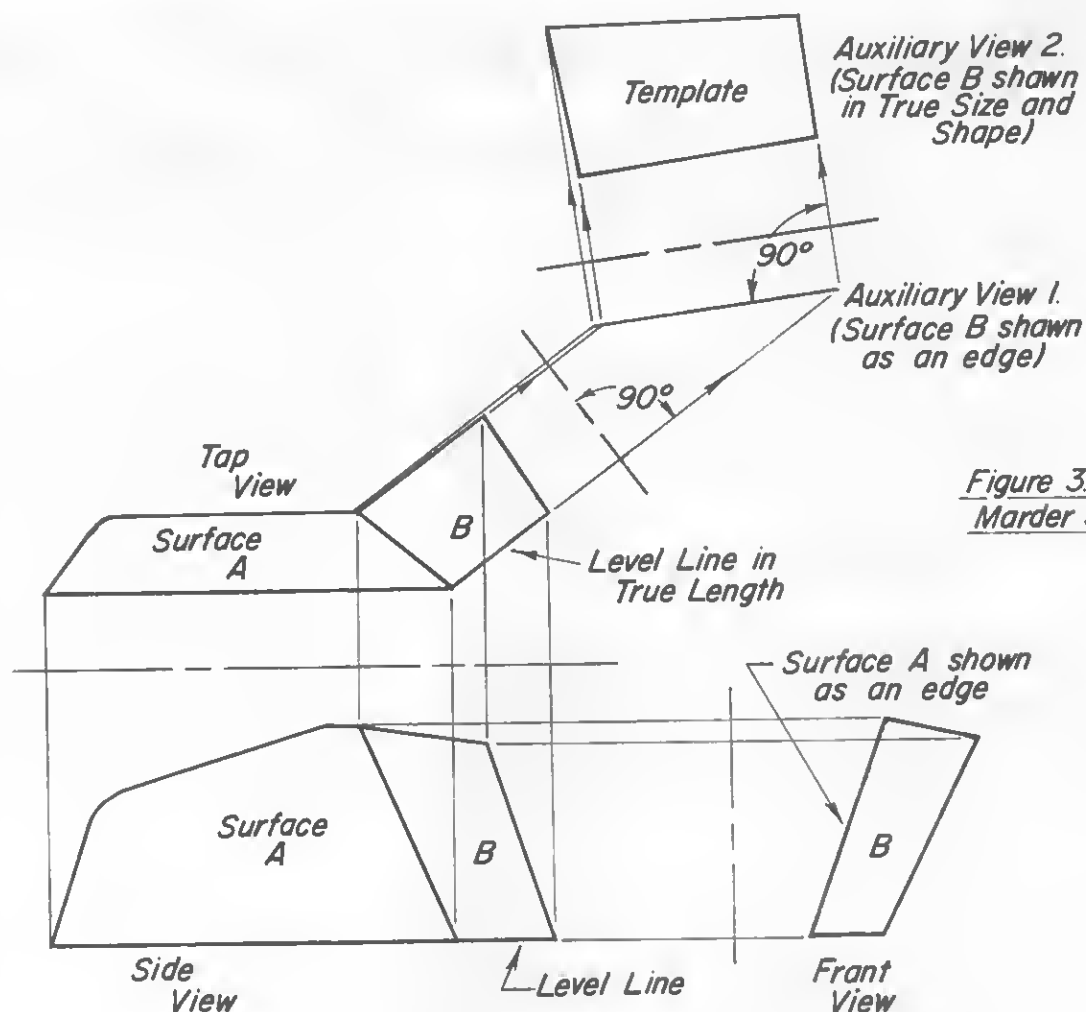

Figure 3.
Last, we come to the subject of developing templates from oblique surfaces. Since an oblique surface never appears in any of the normally-given views as an edge, and any surface must appear as an edge, it follows that the oblique surface must first be drawn as an edge. Once it is drawn as an edge, the technique used for inclined surfaces may be used to draw the oblique surface in its true size and shape. Please refer to Figure 3 at this point. Figure 3 shows partial right side, top and front views of the "Marder 38(t)" (Sd. Kfz. 138, Ausf. M) as it appeared in Vol. 3, No. 12 of AFV-G2. For those of you who have copies of this drawing, you may note that I have rearranged the layout of these partial views for convenience. This figure shows two surfaces; Surface A is an inclined surface, and Surface B is an oblique surface. As can be seen in the drawing, you will have to draw two (2) auxiliary views to get an oblique
3. Draw projection lines (from the view which shows the level line in its true length) parallel to this line and, as usual, draw a fold line perpendicular to these projection lines. Remember to draw a projection line from every point on the oblique surface. These projection lines and the fold line comprise what is labeled Auxiliary View 1. in Figure 3.
little practice, however, you'll find that the rules and instructions are easily remembered and that developing templates of inclined and oblique surfaces becomes almost as easy as tracing directly from the source drawing. As an exercise, may I suggest that you trace the two views from Figure 2 and the three views from Figure 3 onto a sheet of tracing paper. Once you've finished the development of the auxiliary views, compare the results with mine. Also note that Surface A in Figure 3 is an inclined surface. As a further exercise, you might try to develop a template for Surface A from the given views. What follows is a summary and a few tips about working with the templates once they have been drawn. Good luck and have fun.
3. Is the set of source drawings laid out in such a manner that you can draw your projection lines directly from one related view to another? If not, you may have to cut-up the original set and paste them back together in an order which lends itself to drawing your projection lines as I did in Figure 3. Use your T-Square and triangles to line-up these views.